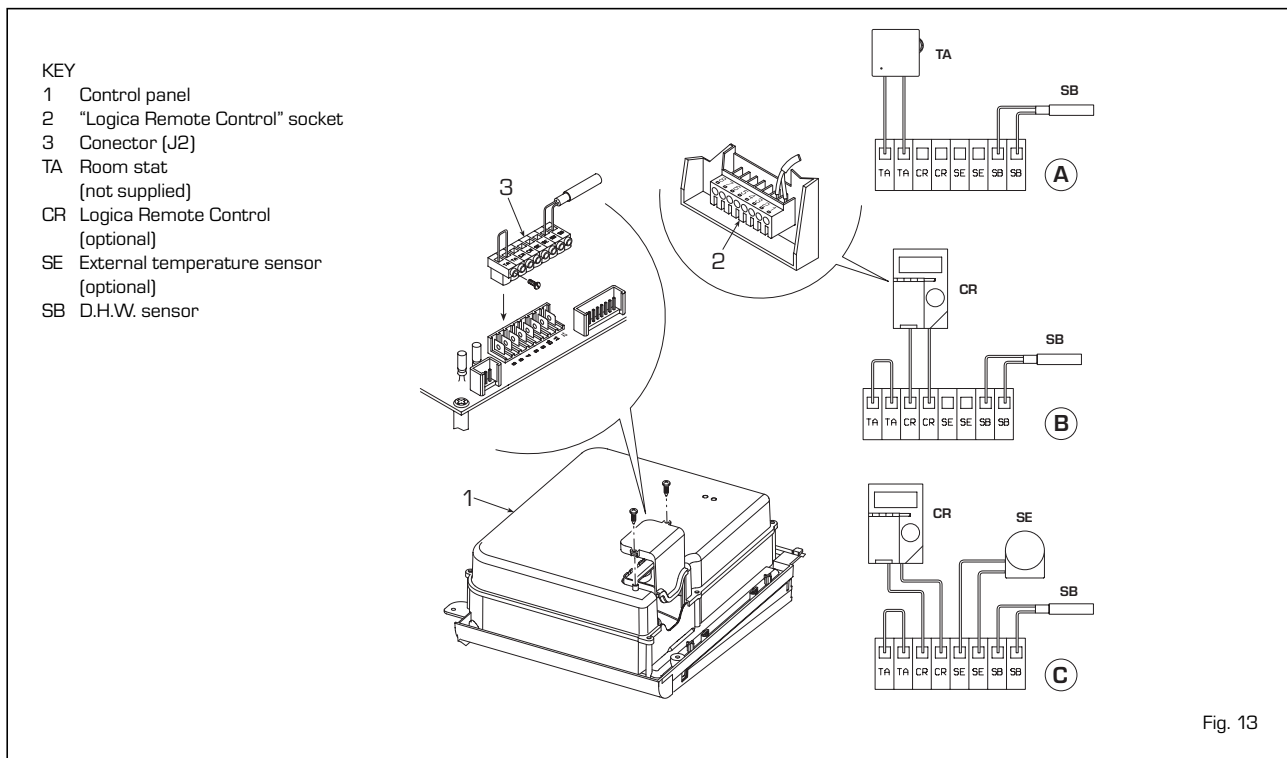

Fig. 13
2.8.1 Room stat connection (fig. 13 pos. A)
2.8.2 "Logica Remote Control" connection (fig. 13 pos. B)
2.8.3 External temperature sensor connection (fig. 13 pos. C)